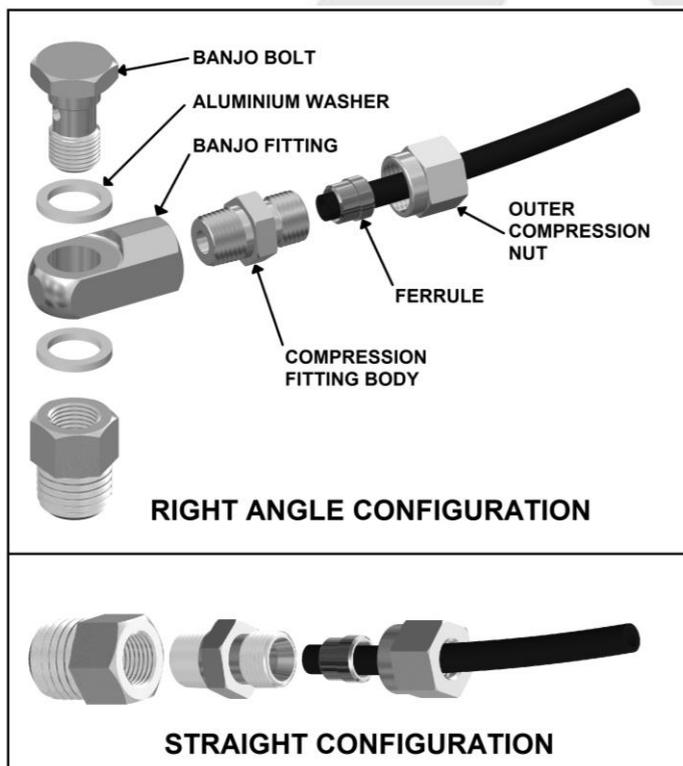

Figure 25.
- Assemble an aluminium washer onto the banjo bolt and insert through the banjo fitting. Assemble second aluminium washer and tighten into bulkhead fitting using a 14mm [9/16"] spanner. (Fig.25.)
- Insert the outer compression nut and ferrule over the air line. Ferrule should be orientated as per Fig.25.
**NOTE :** When right angle routing of the tube is not required, screw the compression fitting body straight into the bulkhead fitting body (Fig.25.).